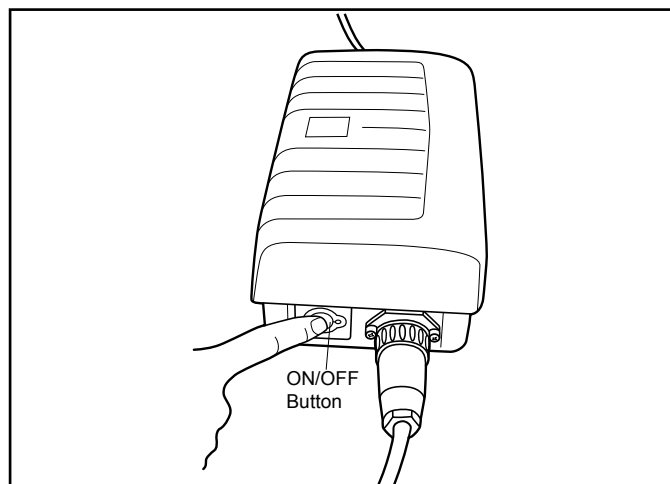

Figure 6. Start the Cleaner.
1. To start your Zodiac V1 robotic cleaner, press the ON/OFF button. Refer to Figure 6. The green indicator light will illuminate briefly and the cleaner will start up after just a few seconds.
2. If you wish to stop the cleaner during the cleaning cycle, press the ON/OFF and ensure that the green LED light goes off. Refer to Figure 6.